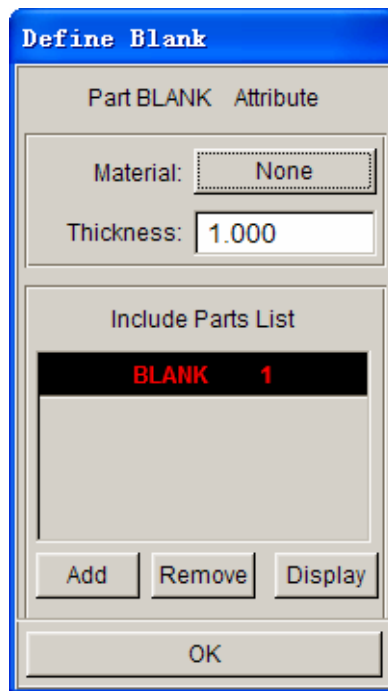

Figure 2.23: Define blank dialog box
- 3) Click **OK** button to accept selection and return to **Define Blank** dialog box. The selected **BLANK** part is added to the Include Part List. See Figure 2.23.